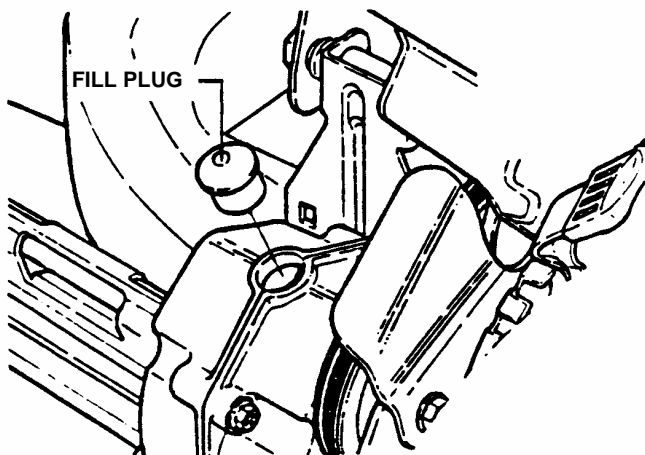

FIGURE 3.2
1. Roll machine and remove transmission fill plug. See Figure 3.2.
2. Look into plug hole. If liquid grease IS NOT visible on the input gear (the small gear below the plug hole), add an amount, to cover gear, of Snapper "00" grease. See Figure 3.2.